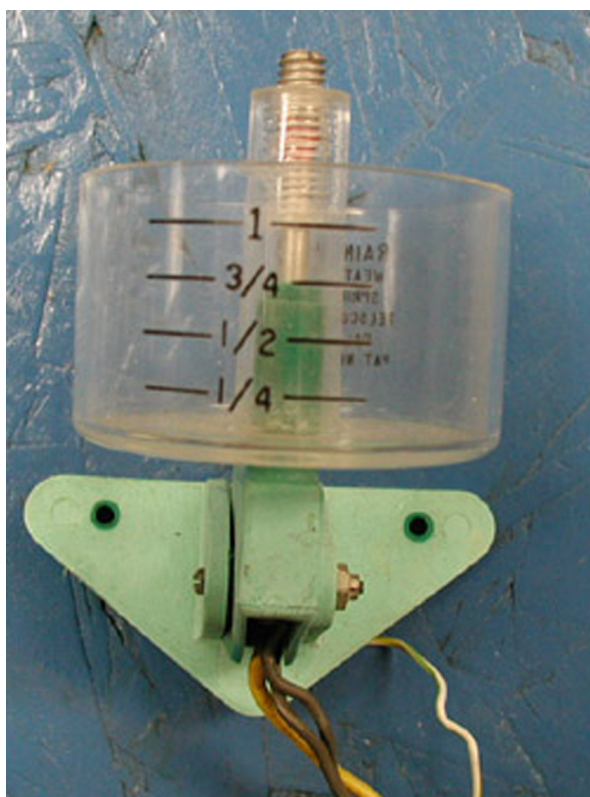
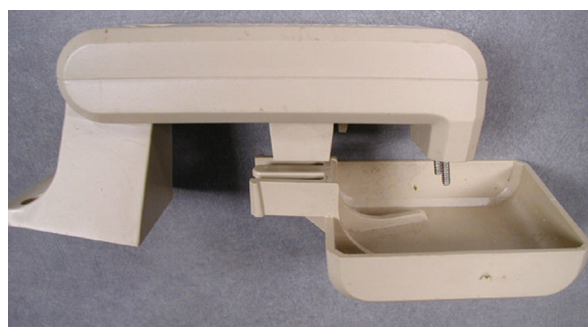

Figure 1. Weight-based rain shut-off device.
Figure 2. Rain shut-off device based on electrical conductivity.
**Water weight** -- When a preset weight of water is collected in a small dish, the connection to the automatic irrigation valve is interrupted until the dish is emptied or a portion of water evaporates reducing the weight below the critical level. A disadvantage of this device is that any other weight (debris, frogs, etc.) can turn off the irrigation system and it requires more maintenance (Figure 1).
**Electrical conductivity of water** -- A set of electrodes is used to detect the water level in a small collection dish. The distance between the bottom of the collection dish and the electrodes can be adjusted so the irrigation system is not switched off by small rain events. Typically, the sensor is set to detect rain events larger than 1/2 inch. Similar to the previous type, water may have to be removed from the dish, and debris may create some problems (Figure 2).
containers average 1/2 inch of rainfall, set the rainfall sensor to 1/2 inch and manually initiate the irrigation system at the controller. The system should not operate. If this is the case, the rainfall sensor is adjusted properly. If the system runs, the rainfall sensor may have to be: 1) cleaned, 2) located so that rainfall will contact it, or 3) repaired or replaced. Sensors with electrodes (see Figure 2) may require cleaning of the electrodes and/or cleaning of the catch container. Sensors with a weighing dish or cup (see Figure 1) may require periodic cleaning of the container.